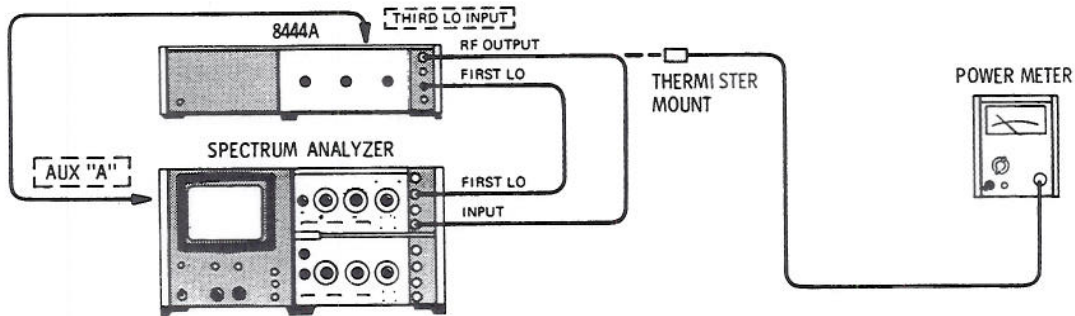

Figure 5-8. Level Control Calibration Check and Adjustment Test Setup
- 1. Connect test setup as indicated in Figure 5-8 and set controls as follows: